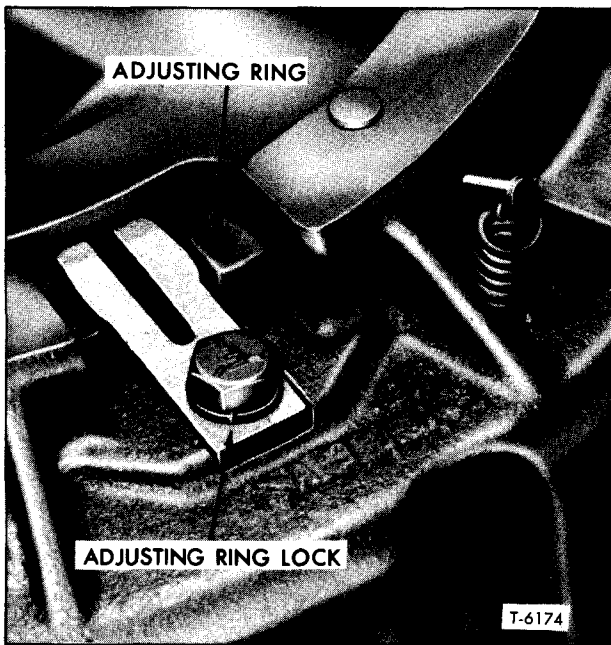

Figure 7—Adjusting Ring with Adjusting Ring Lock Installed
3. Rotate flywheel until the adjusting ring lock (fig. 7) is exposed at inspection hole opening in the bottom of clutch housing.
4. Referring to figure 7, remove cap screw and lock washer. Use screwdriver or similar wedge to pry adjusting ring lock free of the adjusting ring.